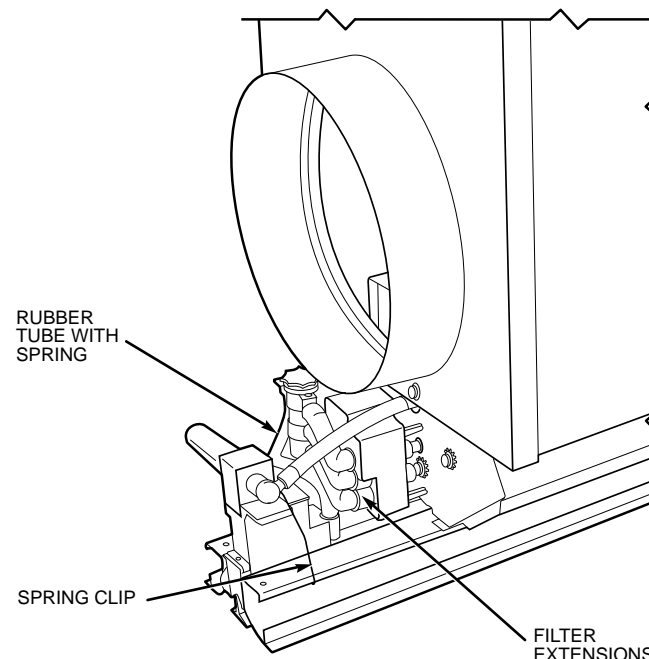

Fig. 15 — 37HS1 Variable Air Volume Control Installation
- c. Install the thermostat on the center diffuser, then snap spring clip over thermostat and onto the side diffusers to hold thermostat in place. See Fig. 15. Make sure that thermostat lever will rotate.